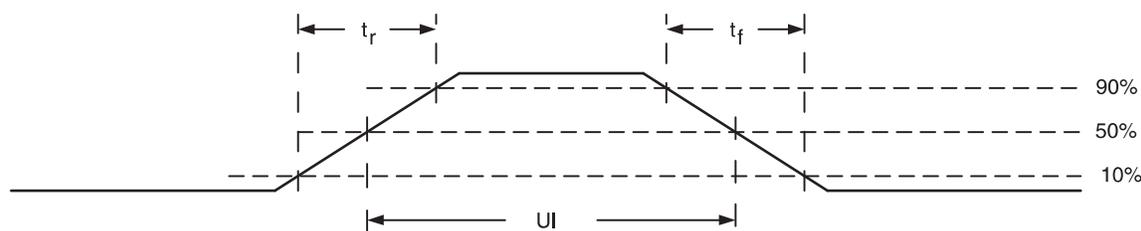

Figure 1. M-LVDS Unit Interval Definition
The M-LVDS devices shown in Table 1 all include output slew-rate limited drivers, thus the need for different nominal signaling rates. The M-LVDS standard recommends the transition time not exceed 0.5 of the unit interval (UI). The definition of transition time (t_r and t_f) in M-LVDS is the 10% to 90% levels shown in Figure 1. Using the maximum transition time for each of the drivers and the $0.5(t_{UI})$ rule results in the signaling rates shown in Table 1. This slew-rate control differentiates M-LVDS devices from LVDS (TIA/EIA-644A) compliant devices. The slower transition times available with M-LVDS help to reduce higher frequency components in the transmitted signal. This reduces EMI and allows longer stubs on the main transmission line. For this reason it is generally better to select a driver with a specified signaling rate no greater than is required in the system.